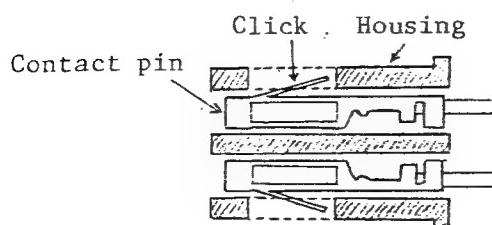

Fig. 4.3 J3 Connector Structure
- (1) Tools and measuring instruments to be used:
- (2) Disassembling
- (a) As shown in Fig. 4.3, the J3 connector is secured to the housing by a contact pin click.
- (3) Assembling
- (4) Caution